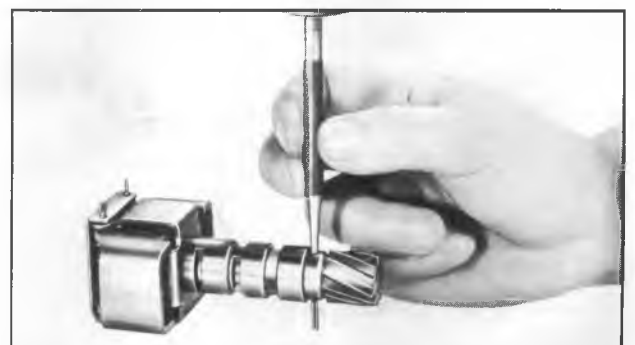

Figure 45—Removing Governor Gear Retaining Pin
1. Drive out governor gear retaining split pin using small punch (fig. 45).